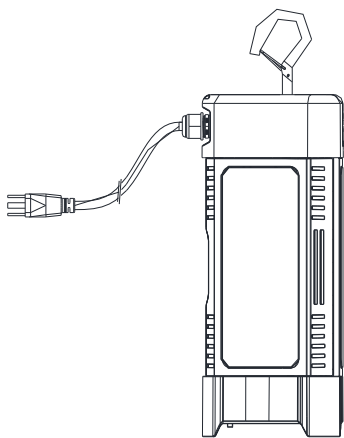

Figure 1
1. Screw the hook into lamp base. (Figure 1).